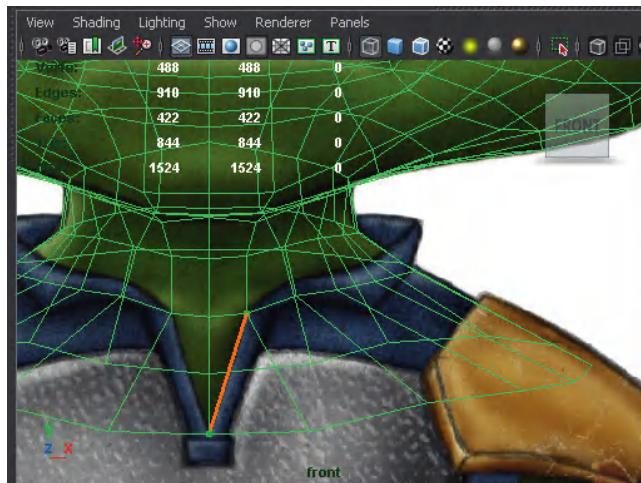

FIG. 4.51 Using the Interactive Split Tool to rough out the collar.
Step 69: Add groundwork of collar. Do this (Fig. 4.51) by using the Interactive Split Tool to make a new cut that will become the inside of the collar.